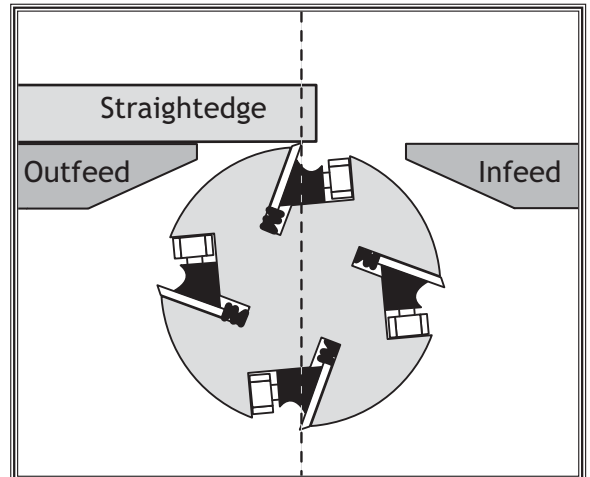

Figure 16. Using a straightedge to make sure outfeed table is level with knives at their highest point of rotation (TDC).
19. Carefully rotate the cutterhead pulley and notice if the knife contacts the straightedge when the knife is at its highest point in the rotation (top dead center or TDC), as shown in **Figure 16**.